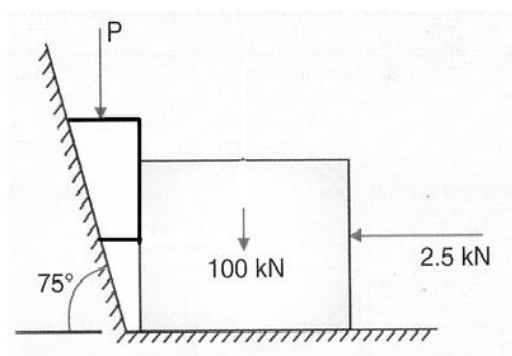

Fig.6
- 13 Determine the force  $P$  required to move the wedge downwards as shown in Fig.6. (10)